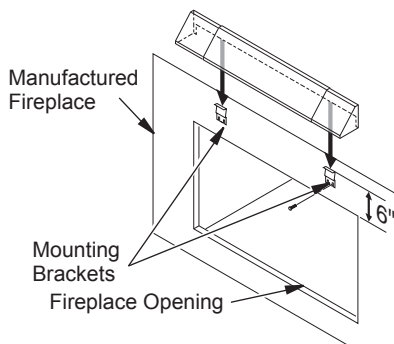

Figure 12 - Installing Hood Above Opening on Manufactured Fireplace
2. Tape mounting bracket to fireplace housing. Make sure top of bracket is six inches above fireplace opening (see Figure 12).
5. Use the sheet metal screws provided to fasten brackets to fireplace housing (see Figure 12, page 3).
6. Slide hood over mounting brackets (see Figure 12, page 3).